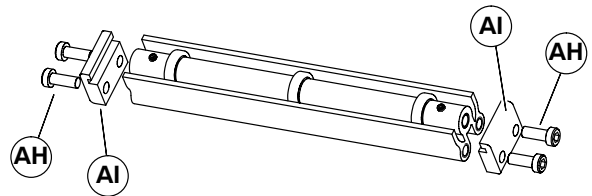

Figure 16
1. Locate return rollers. Exploded view shown in Figure 16.
2. Remove screws (AH of Figure 16) and clips (AI) from roller assembly.